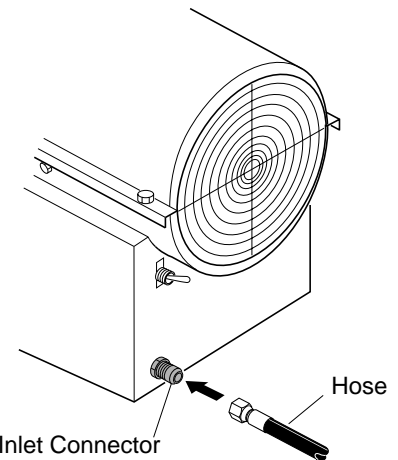

Figure 4 - Hose and Inlet Connector
3. Connect hose to inlet connector. Tighten firmly using a wrench (see Figure 4).